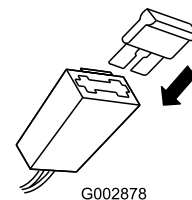

Figure 10
2. Install the fuse in the fuse holder (Figure 10).